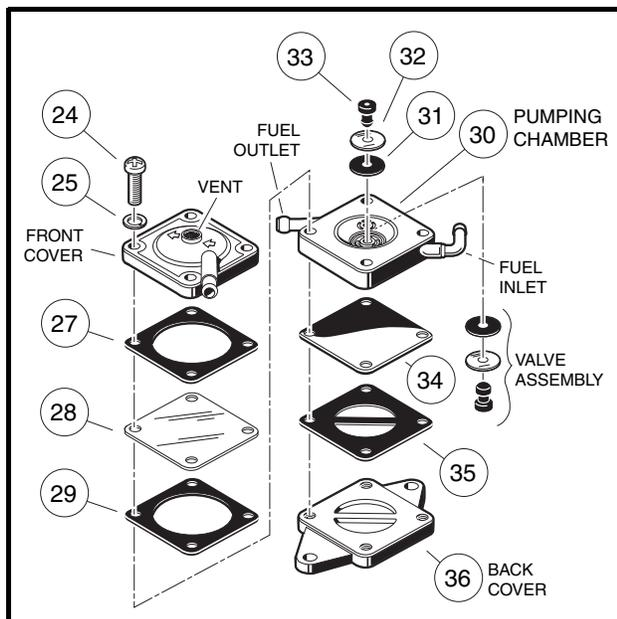
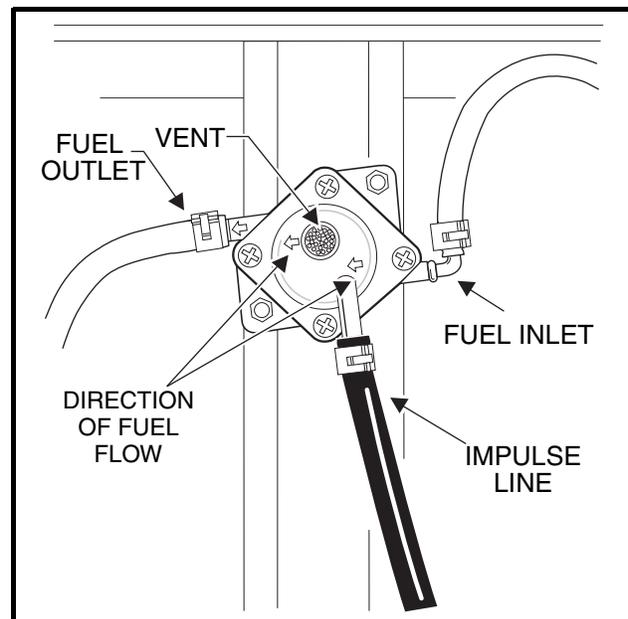

Figure 14-12 Fuel Pump
Figure 14-13 Fuel Pump Orientation
2. Remove four screws (24) and lock washers (25) from front of the fuel pump (**Figure 14-12, Page 14-20**).
- Note the orientations of the impulse gasket (27), the diaphragm (28), and the gasket (29), then remove them from the pump.
- If the impulse gasket (27) and the diaphragm (28) come off with the front cover, note their orientations and remove them (**Figure 14-12, Page 14-20**).
- Remove the pumping chamber (30).
- Remove the back cover (36), the fuel diaphragm (34), and gasket (35) (**Figure 14-12, Page 14-20**).
- Inspect the valve assemblies (31, 32, and 33) and all gaskets and diaphragms for damage (**Figure 14-12, Page 14-20**).
- If a valve assembly is damaged, the rubber retaining plug (33) and valve assembly must be replaced.
- Install the fuel gasket (35) and diaphragm (34) on the back cover (36) (**Figure 14-12, Page 14-20**).
- Install the valve assembly in the pumping chamber (30). **See following CAUTION.**
- If the valve assembly is not installed exactly as shown (**Figure 14-12, Page 14-20**), the impulse fuel pump will not operate properly.
- Install the pumping chamber (30) on top of the fuel diaphragm (34). Be sure the fuel inlet and the fuel outlet align with the arrows on the front of the front cover (**Figure 14-12, Page 14-20**).
4. Install the gasket (29), clear impulse diaphragm (28), and the paper impulse gasket (27) to the pumping chamber (30).
5. Install the front cover and then the lock washers (25) and four screws (24) on the assembly (**Figure 14-12, Page 14-20**). Be sure the arrows on the front cover point from the fuel inlet to the fuel outlet (**Figure 14-13, Page 14-20**). Tighten the screws to 26 in-lb (3.0 N·m).
**NOTE:** Be sure to connect the fuel line (2), that comes from the primary fuel filter (17), to the inlet nipple on the pump. Direction of fuel flow is indicated by the arrows on the fuel pump (**Figure 14-11, Page 14-18**). See also **Figure 14-13, Page 14-20**.